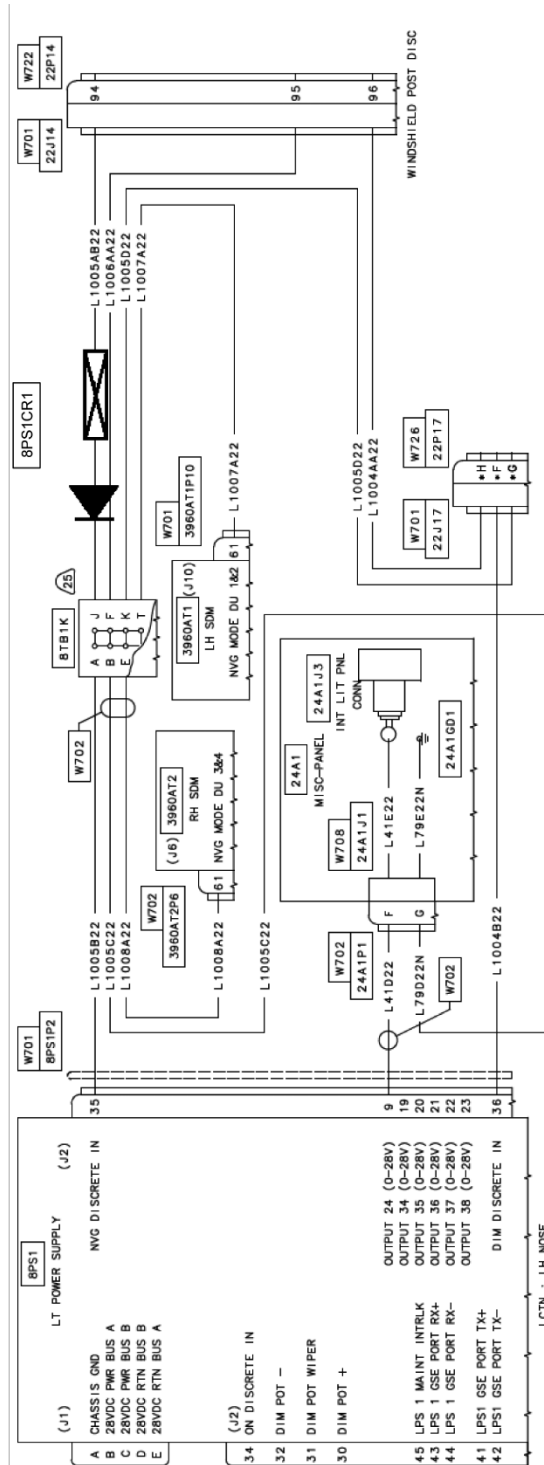

FIGURE 5 – 8TB1-K
21. With a crimping tool AD-1377, splice wire L1005AB22 to the lead wire on the anode side (+) of diode assembly 8PS1CR1 P/N 30-251-48AA. Refer to the wiring diagram in Figure 5.
22. Place the ident tubing (Figure 5), identified with 8PS1CR1, on the diode assembly and apply heat until the tubing shrinks in place.
23. Insert the respective lead wire of diode assembly 8PS1CR1 into pin J of terminal block 8TB1-K. Refer to the wiring diagram in Figure 5.